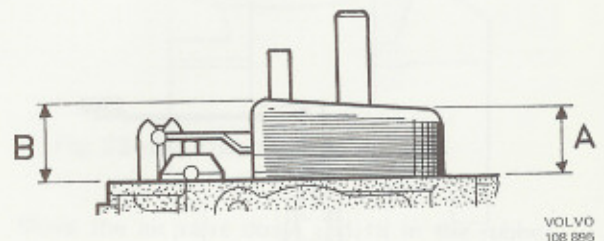

Fig. 23-29. Float level
At the correct float level, the top point on the float should lie 15–17 mm (0.59–0.67") (B, Fig. 23-29) with the lowest point 9–13 mm (0.35–0.51") (A) above the sealing surface of the carburettor housing. If the level is incorrect, adjust by bending the tag at the float valve.